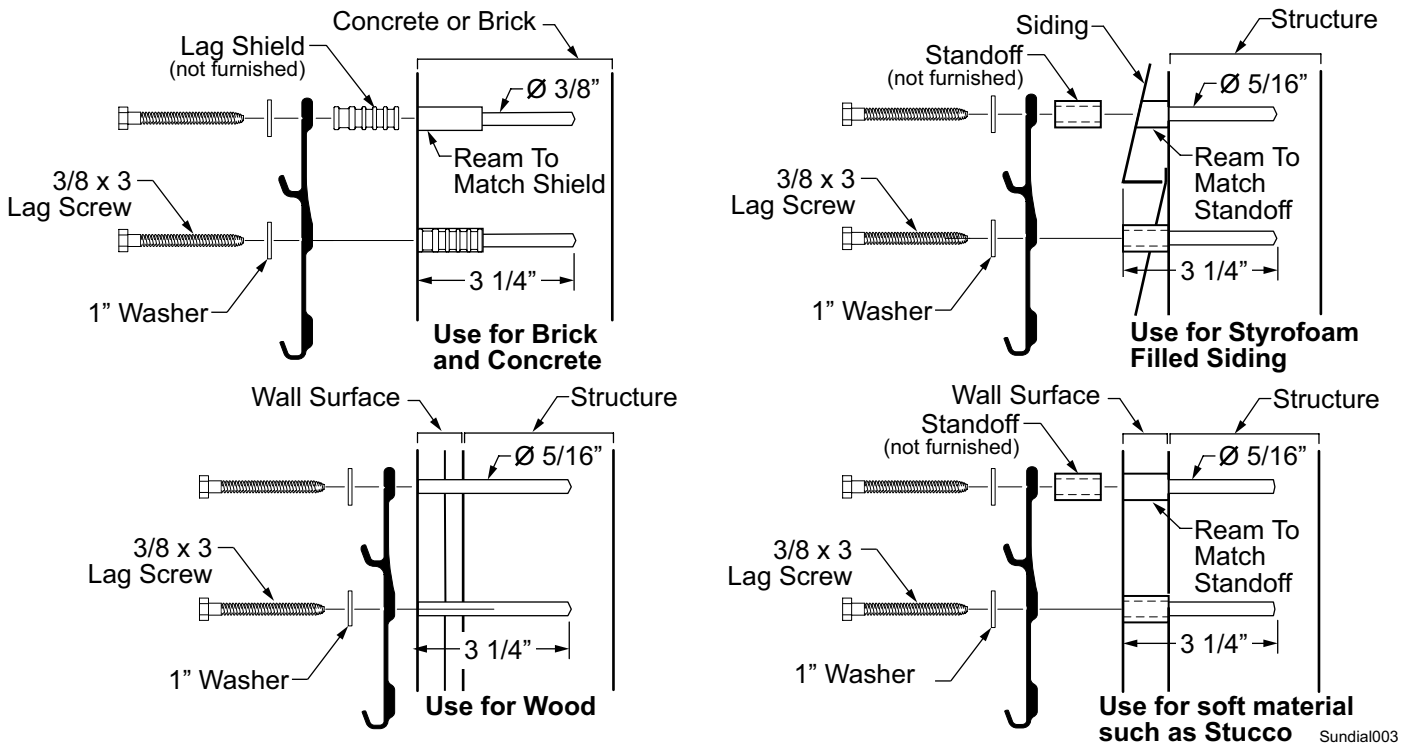

Figure 5. Attaching the Mounting Plate.
- Determine the best method to attaching the plate to the wall. Examples for attaching are shown in Figure 5. Bracket attach details are suggestions and may not cover all circumstances. If unsure, consult a builder or engineer prior to installation.